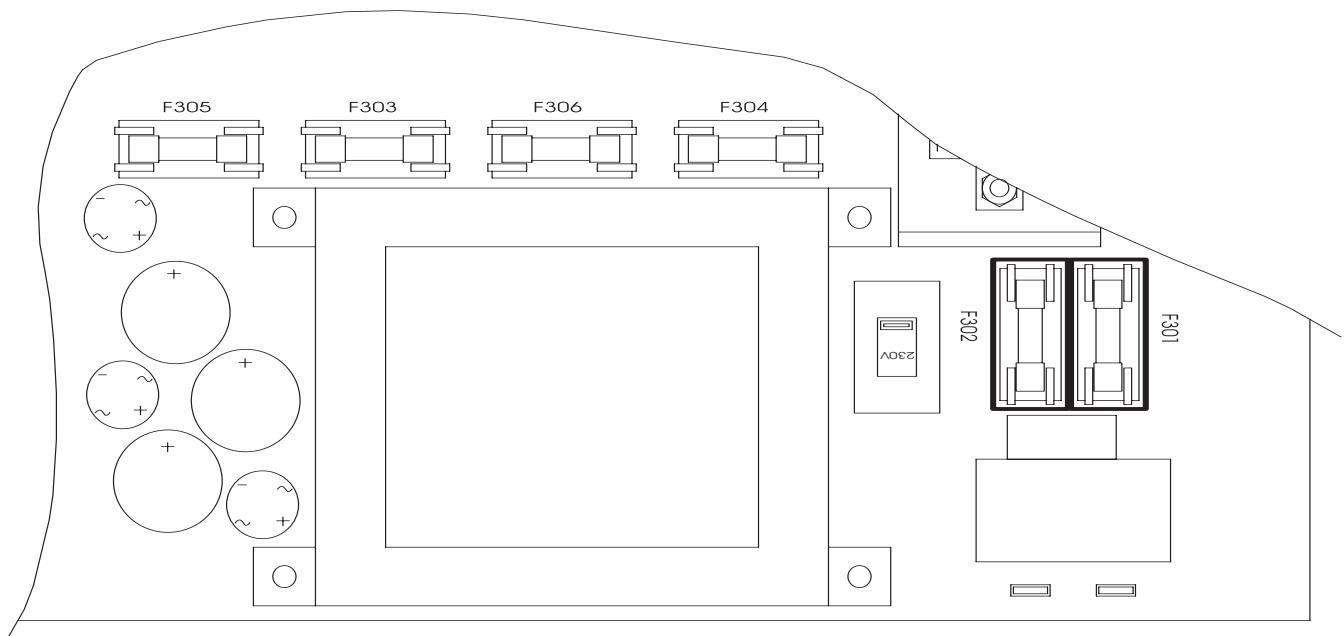

Fig.2.3
4. The voltage selector is located next to the power switch (see Fig. 2.3 on next page). 115 V or 230 V may be selected.
5. Two identical fuses are located beside the voltage selector (see Fig. 2.3). The current of the fuses varies according to the voltage, see below: